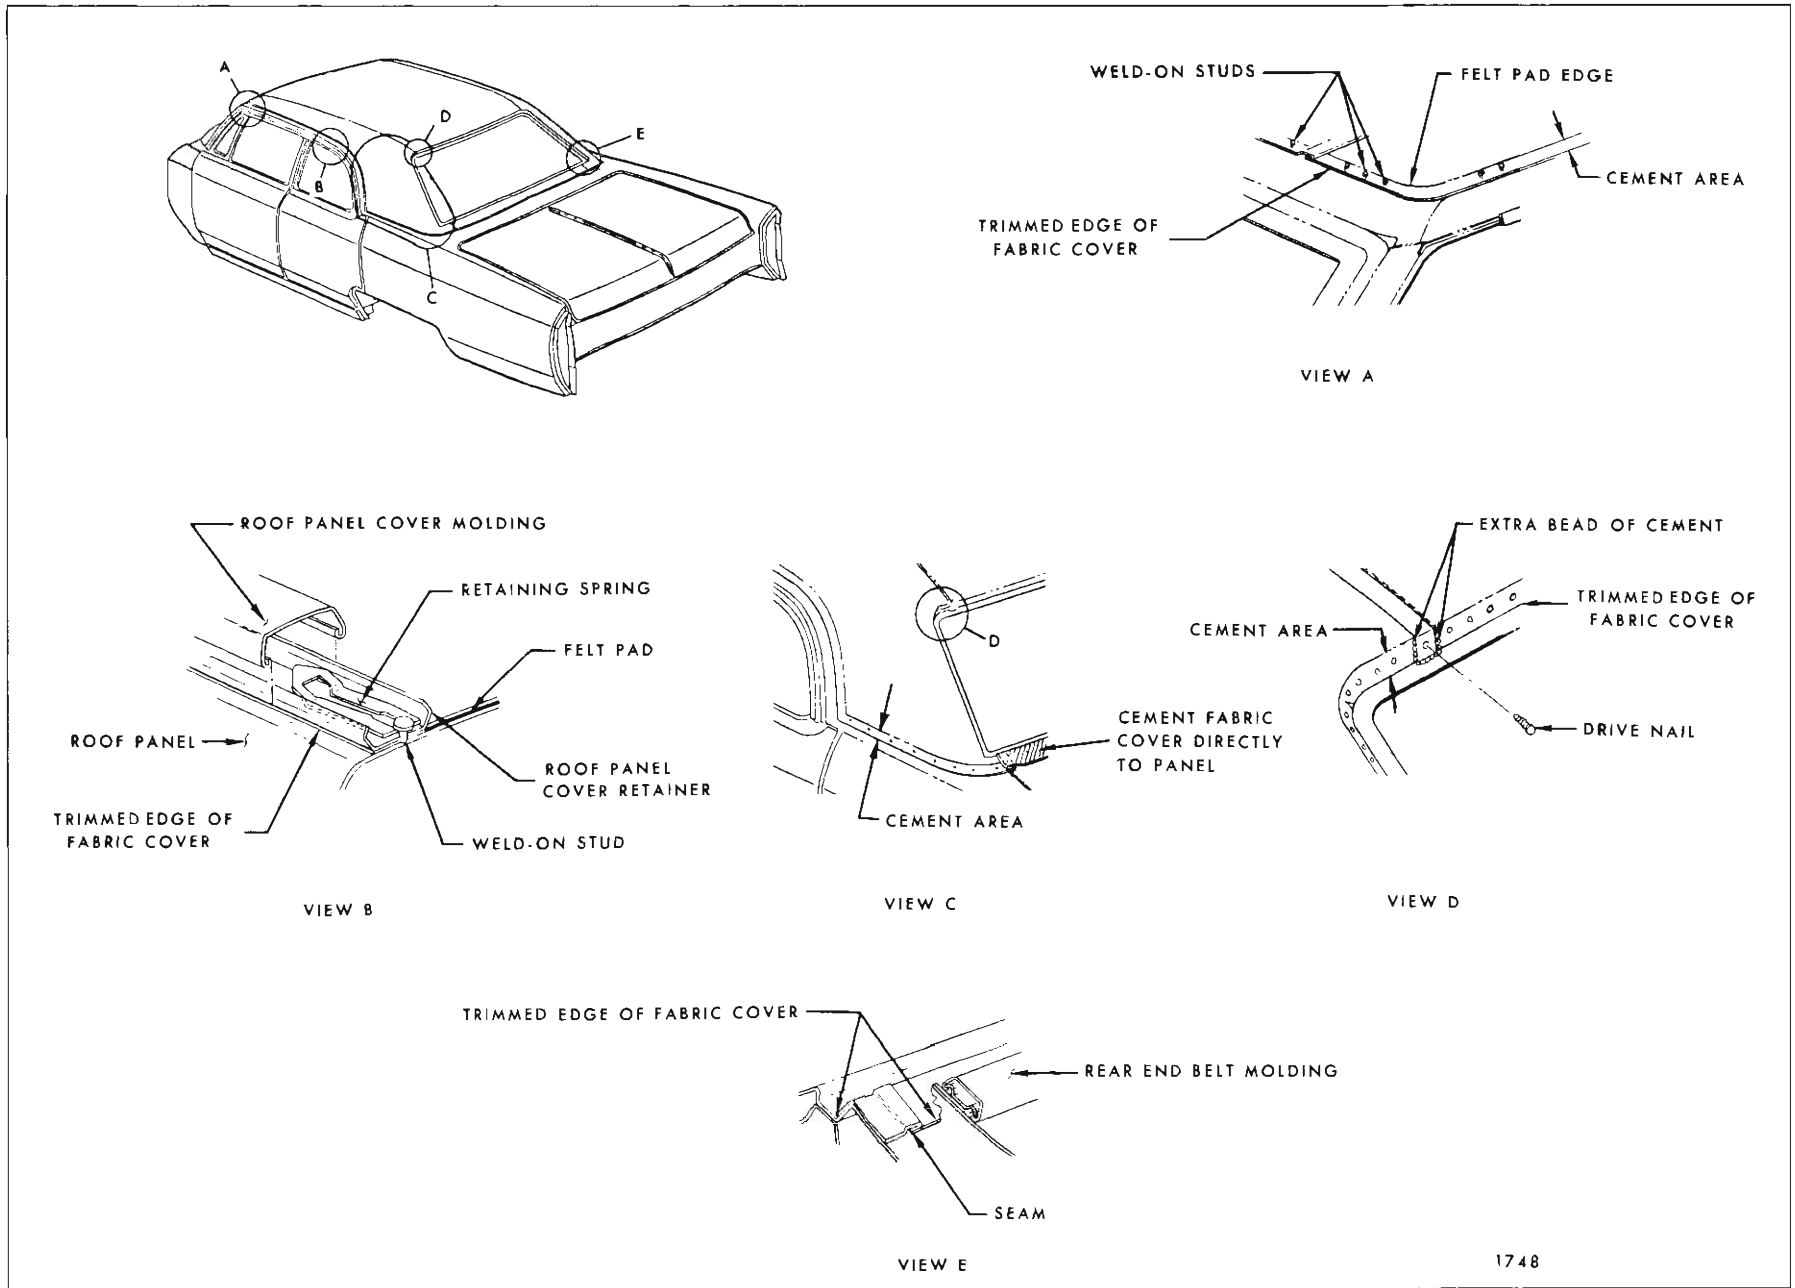

Fig. 1J5—Fabric Roof Cover Installation
**NOTE:** Where new cover is installed at temperatures below 72°, pliers fabricated as shown in Figure 1J2 will aid in removing wrinkles.
5. Apply nitrile vinyl trim adhesive to inner perimeter of fabric cover. (3M Vinyl Trim Adhesive, Permalastic Vinyl Trim Adhesive, or equivalent). Allow to dry for fifteen minutes. (See Fig. 1J3).